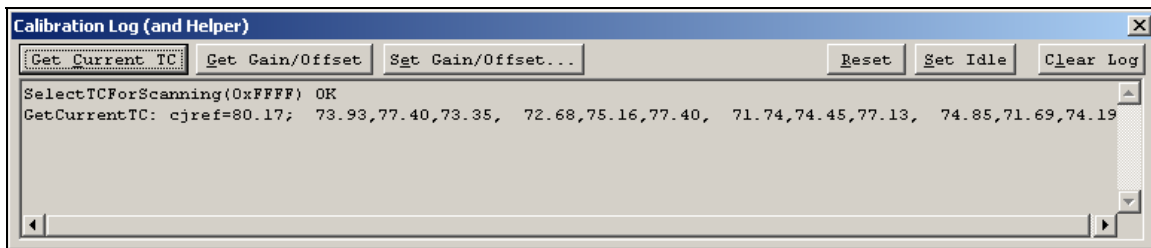

Figure 210: Hardware Utility – Calibration Status Log – Get Current TC
**Get Current TC** – displays the current thermocouple values for all channels of the *KIC Explorer*. See Figure 210.